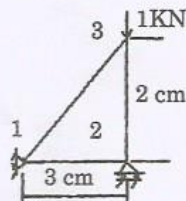

Fig. 3
- Derive the stiffness matrix for a two noded bar element using a linear displacement function. (OR)
- Evaluate the stiffness matrix for the plate element shown in Fig. 3. Take  $t = 0.5 \text{ cm}$ ,  $E = 2 \times 10^7 \text{ N/cm}^2$ ,  $\mu = 0.27$  using plane stress formulation.